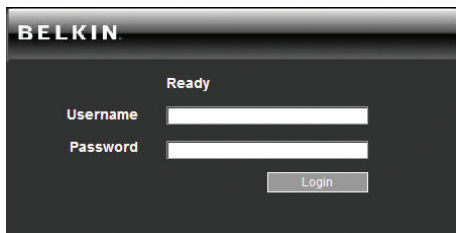

Figure 13 Login page
2. Type the Switch's system IP address—http or https://IP address/ - and press "Enter". The login page appears (see Figure 13).